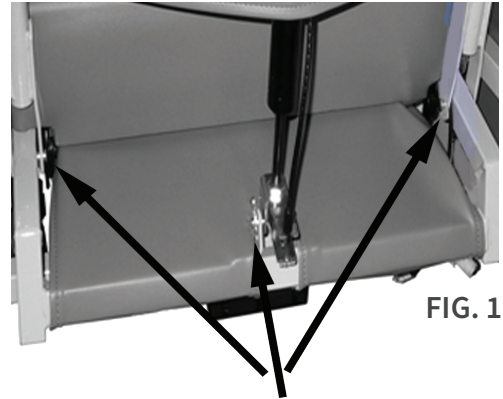

FIG. 1
4. Remove **ALL** clevis and bow-tie cotter pins located on the bottom left and right forks of the back frame and on the operator of the gas cylinder. **DO NOT LOSE – YOU WILL NEED THEM AGAIN** (FIG. 1).
5. Position the back frame forks over the seat frame rails and align holes (FIG. 1). **HELPFUL HINT:** Align the holes on the lower back frame while allowing the upholstered back to rest on the seat. This will help you steady the chair back. If possible, have someone help you hold the back assembly while you install pins.
6. Align and insert the clevis pins (removed in step 4) through each back frame fork and corresponding hole in the seat frame. **NOTE: There are a total of three (3) pins on standard sized chairs and four (4) pins on XL chairs.**